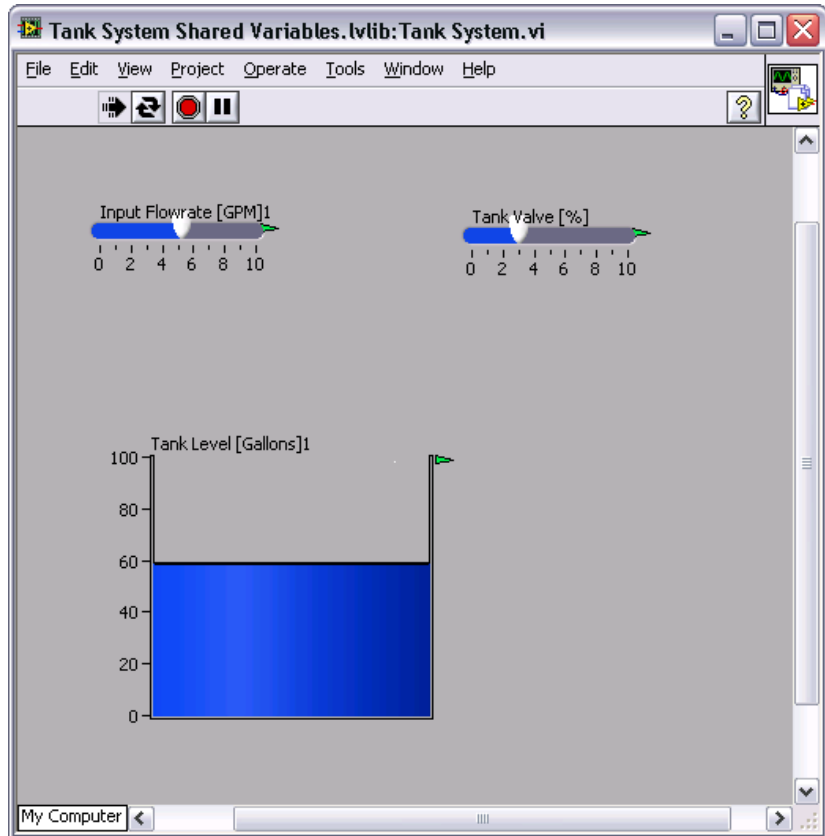

Figure 3. Tank System VI Front Panel
17. Click the **Run Continuously** button to run the VI. The VI should function in the same way as the example you ran in the *Opening and Running an Example* exercise. Figure 3 illustrates the front panel of the Tank System VI.